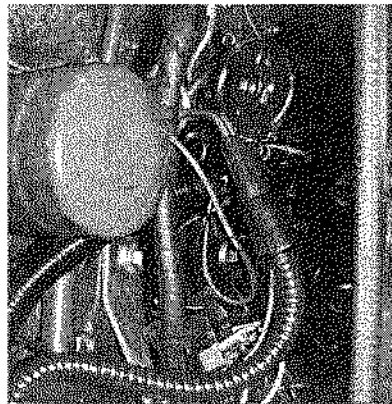

Figure 30-2
5. Install heating resistor D with aluminium sealing so that the resistor plug points down (figure 30-2).
6. Connect the engine heater cable to the resistor plug (figure 30-2).